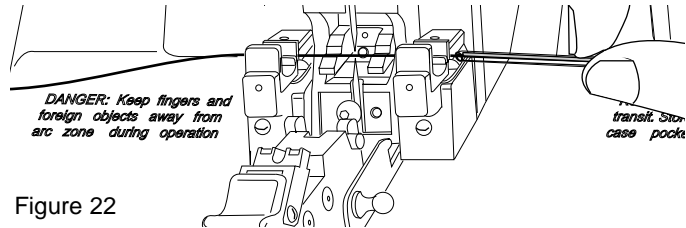

Figure 22
- a) Move the splice protector sleeve next to the fiber coating clamp (Figure 22).